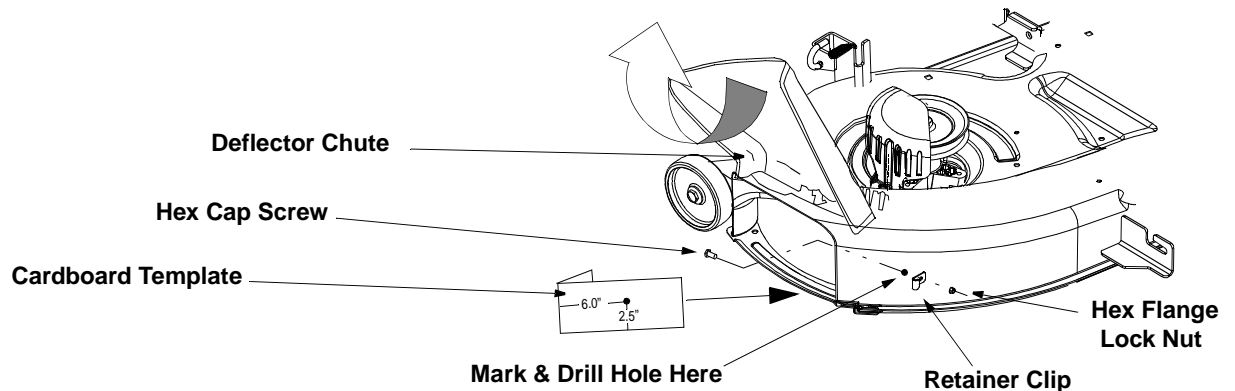

Figure 1
1. Crease the template included in this kit and place it over the front of the cutting deck near the discharge area as illustrated in Figure 1. Mark the hole location on the cutting deck with a center punch.
3. Attach the retainer hook bracket to the cutting deck using the hex cap screw and hex flange lock nut included in this kit. See Figure 1.